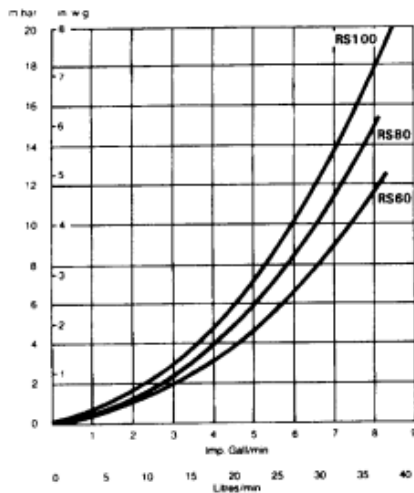

FIG. 3 PRESSURE LOSS ACROSS BOILER
5. The circulating pump should be selected from reference to Fig. 3, the resistance through the boiler heat exchange will not exceed 6.2mbar (2.5 in.wg.) at a flow rate of 5 gal/mm.